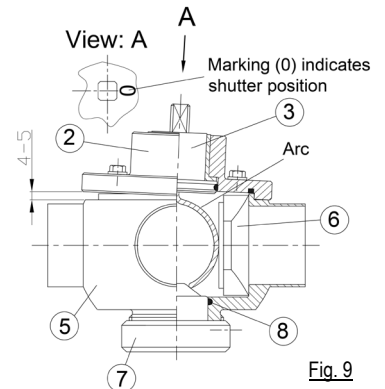

Fig. 9
- Insert bearing bushing (9) into bearing cap (2).
- Insert O-rings (4), (8) and (10).
- Assemble pivoted axle with arc (3) and bearing cap (2). Pay attention to the marking (0) on the square pin of the pivoted axle (3) → indicates the shutter position (6) (see Figure 9).
- Insert shutter (6) into valve casing (5).
- Fit the pivoted axle with the arc (3) together with bearing cap (2) to the valve casing (5) as follows:
- The pivoted axle with arc (3) is designed that it exerts a defined pressure on the shutter (6) during assembly. On account of the preload characteristics, the bearing cap (2) declines approx. 0.16-0.20in (4-5mm) off the valve casing (5) on the opposite side of the shutter (see Figure 9).